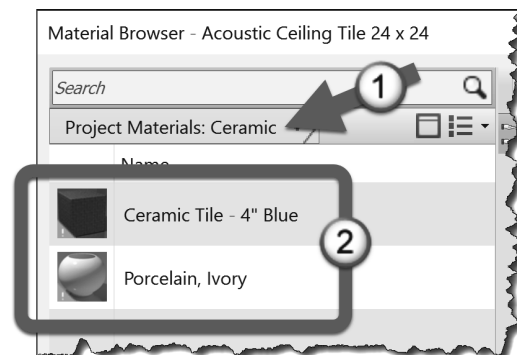

FIGURE 4-4.1 Filter materials by class
2. Filter the material list by *Class* **Ceramic**; click the down arrow as shown in Figure 4-4.1.